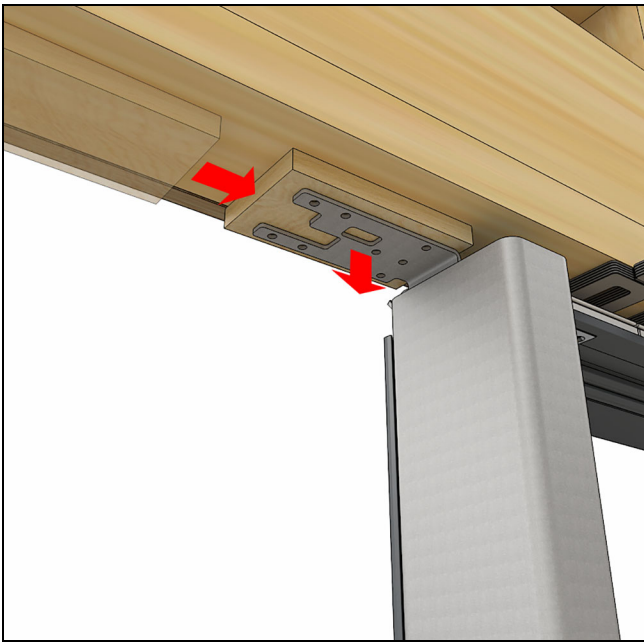

Figure 227
9. Shim the top bracket so that when it is fastened to the RO it will be no more than 1/8" away from the top of the frame/shim block. See Figure 227.